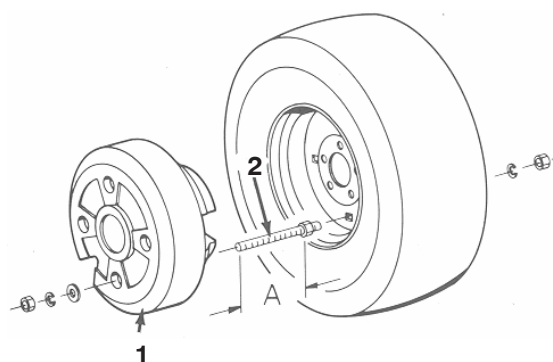

Figure 21
5. Place the wheel weight over the ends of the threaded rods and secure in place with flatwashers, lockwashers and hex nuts (Fig. 21). Do not overtighten the hex nuts or damage to the plastic housing of the weight may occur.
2. Add 3-7/8" to the measurement attained. This becomes dimension "A" in figure 21.
4. Insert the threaded rods through two opposite holes in the rim and secure them in place with 1/2" lockwashers and hex nuts (Fig. 21).